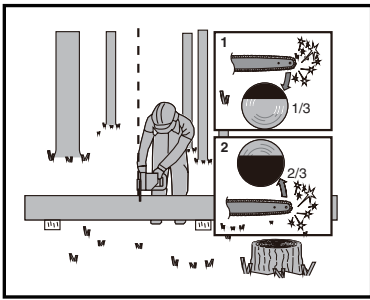

Figure 5
When the log is supported on both ends, as illustrated in Figure 5, cut 1/3 the diameter from the top (overbuck) (1). Then make the